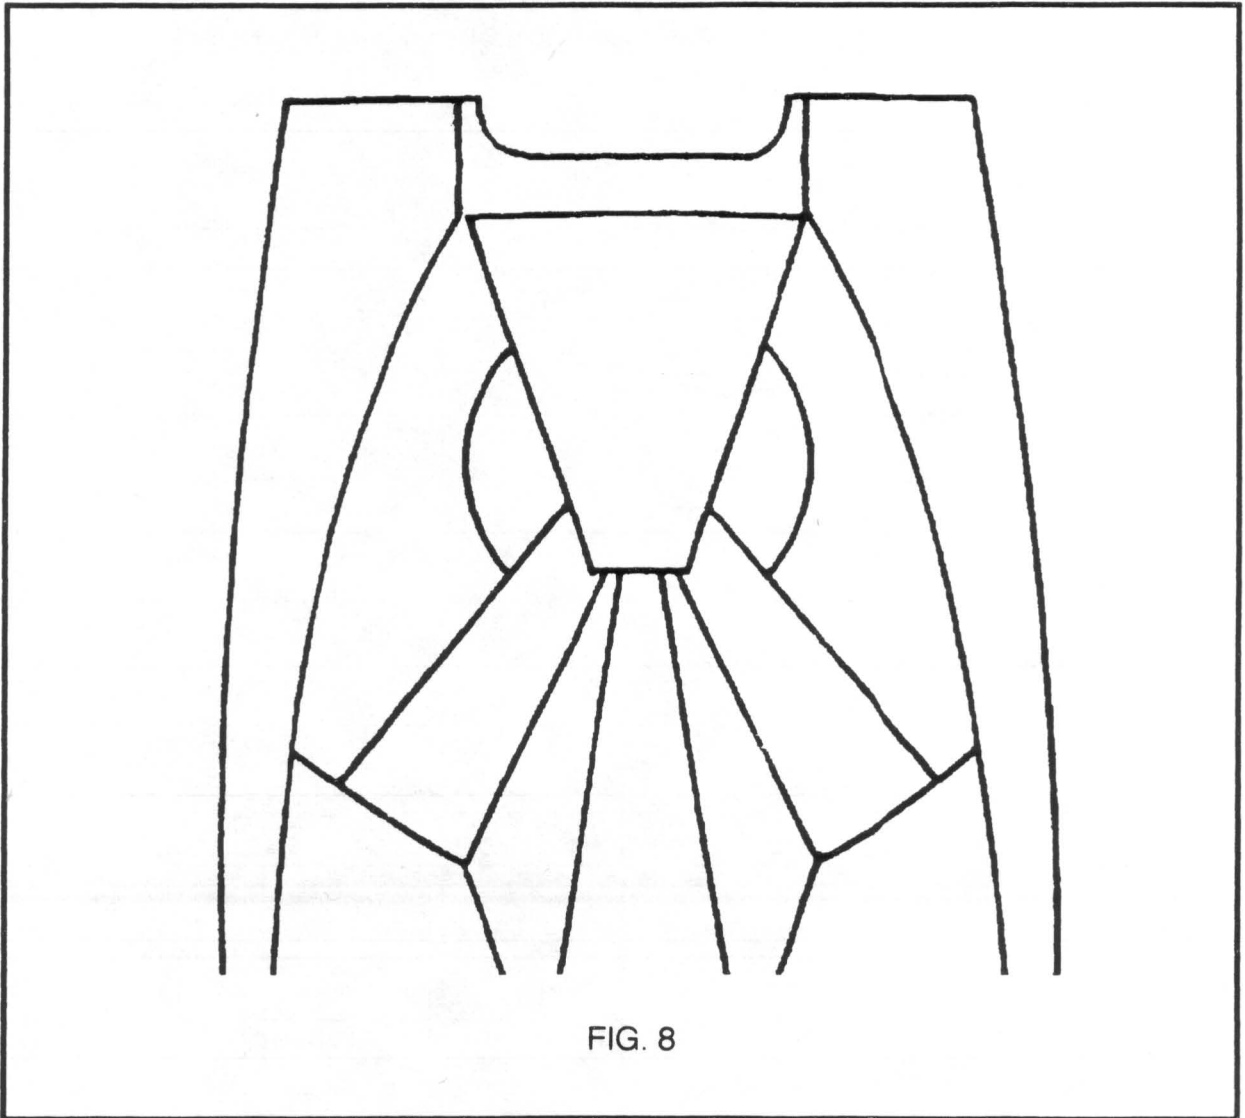

FIG. 8
8) Close riser covers over the main risers. (FIG. 8)